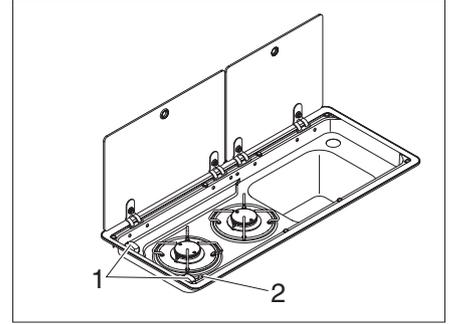

Fig. 85 Operating controls for gas cooker
- ▶ Turn the control knob (Fig. 85,1) on the burner you wish to use to the ignition position (large flame).
- ▶ Create a spark by pushing the ignition button (Fig. 85,2) (only CVD540/600).
- ▶ Turn the control knob (Fig. 85,1) to the 0-position. The flame fades.